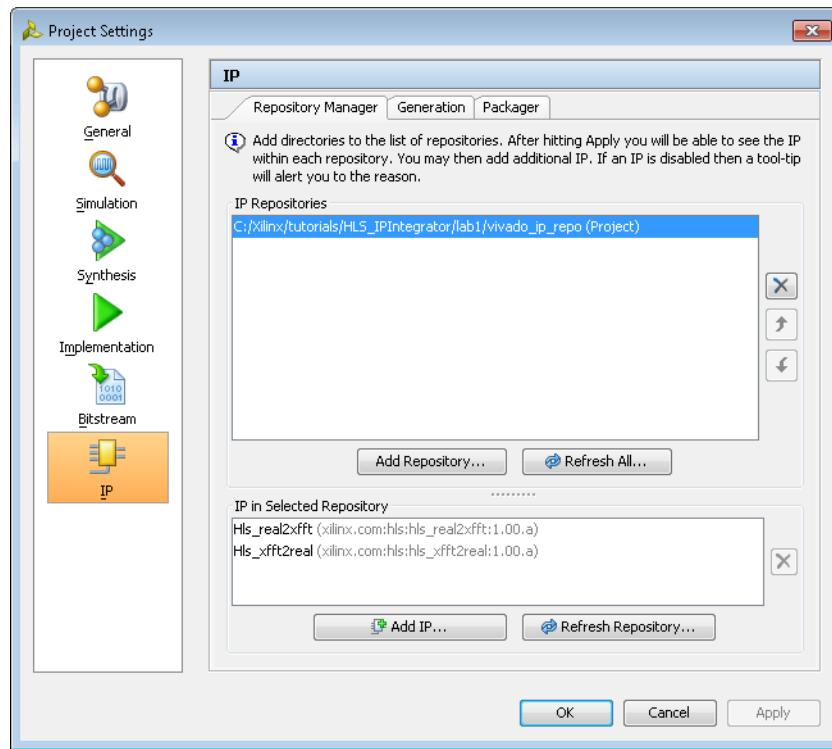

Figure 9-11: IP Repository with HLS IP
7. The new HLS IP should now appear in the IP Settings dialog box (Figure 9-11).